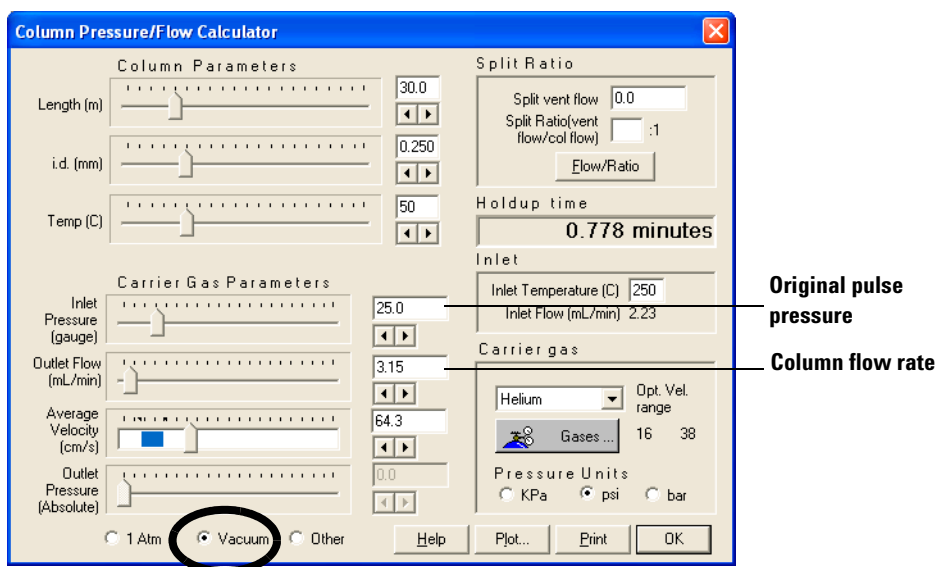

Figure 15 Calculating the original column flow rate during pulsed injection
- a Determine the column flow rate under pressure pulse conditions for the original method that had the column under vacuum outlet conditions. For example, assume a method uses a 0.250 mm × 30 m column at 50 °C initial temperature, splitless injection, helium carrier gas, and an initial pressure pulse of 25 psig. Enter these parameters into FlowCalc to determine the original method pulsed injection flow rate (Figure 15):